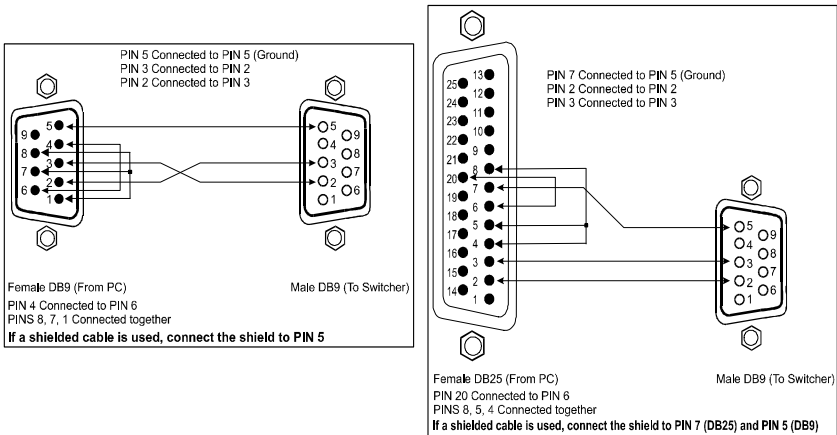

Figure 9: Connecting a PC without using a Null-modem Adapter
- Connect the RS-232 DB9 port on your PC to the RS-232 DB9 rear panel port on the **VP-1608** unit, as Figure 9 illustrates² (depending on whether the PC has a 9-pin or 25-pin connector)